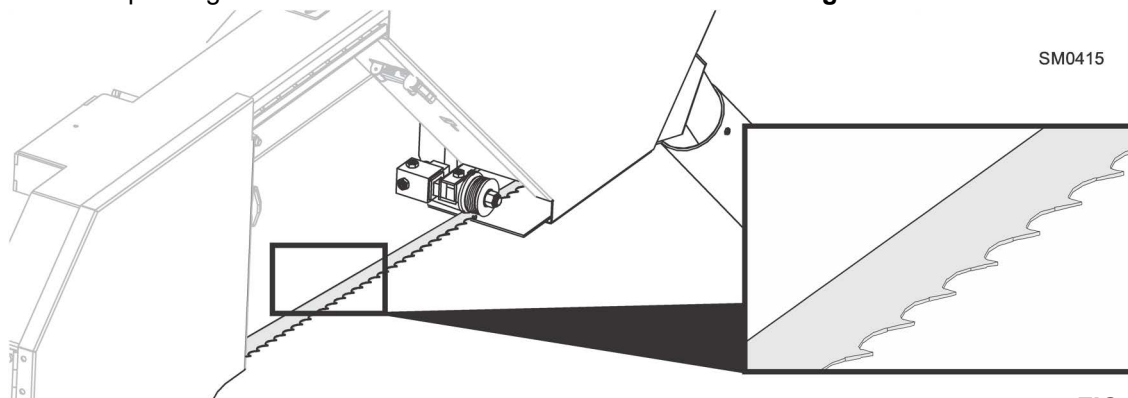

FIG. 3-6
4. Ensure the teeth are pointing the correct direction toward sawdust chute. **See Fig. 3-6.**